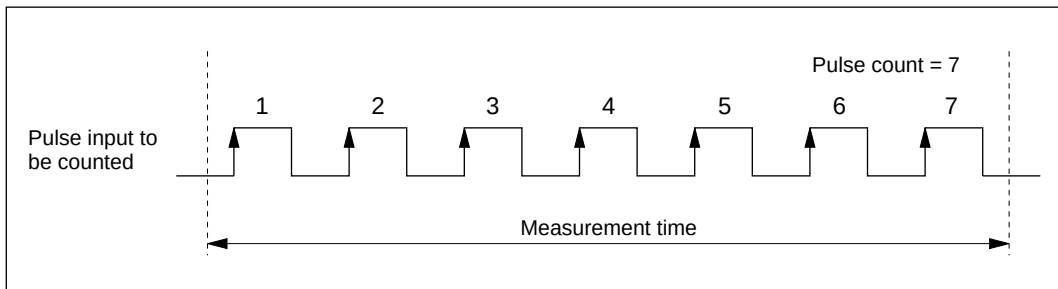

Figure 1 Pulse Counting
1. This sample task counts rising edges of a pulse signal as shown in figure 1, and stores the result in RAM.